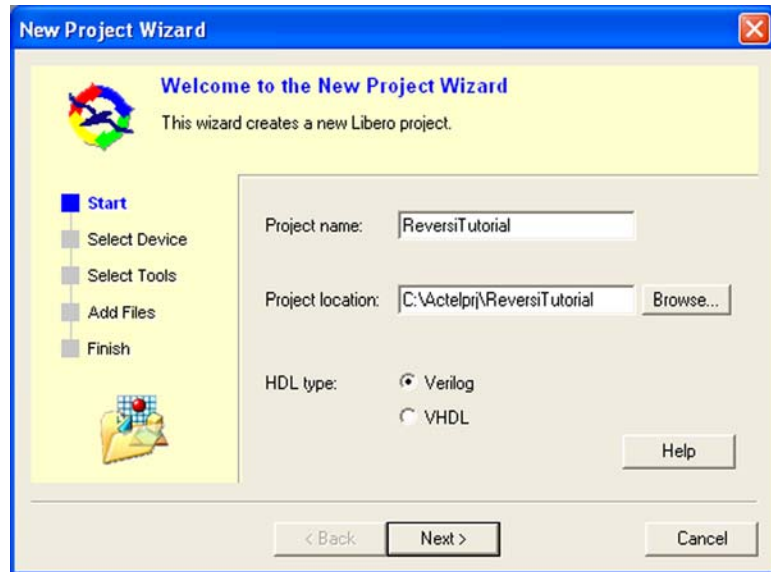

Figure 5-15. New Project Wizard in Libero IDE
2. From the **File** menu, select **New Project**. This displays the New Project Wizard, shown in Figure 5-15.